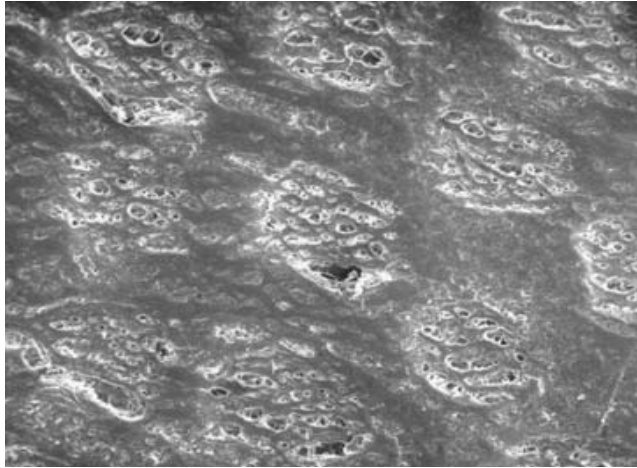

Figure 1: SEM image showing isolated degradation of the grip material - 30X
- The surface of the grips revealing isolated areas that showed significant degradation in the form of material loss as shown in the following micrograph (Figure 1).